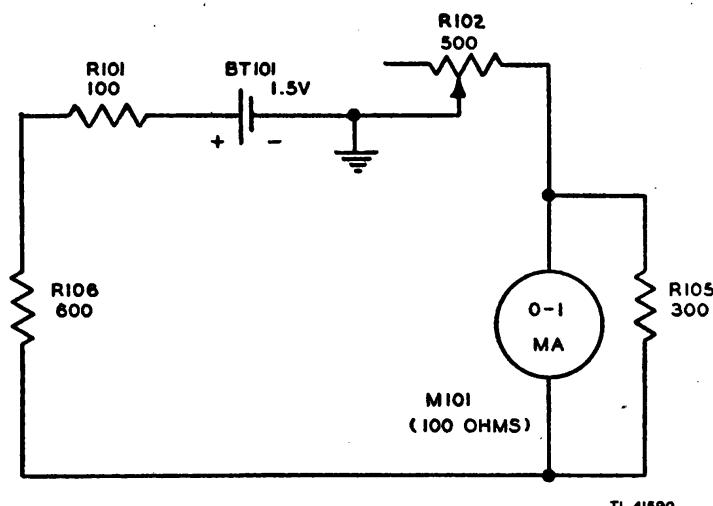

Figure 6. Meter-adjusting circuit for resistance measurements, simplified schematic diagram.
(1) OFF Position. When the selector switch is turned to OFF, the battery circuit is open and no current will flow in any part of the circuit.
(2) MTR ADJ Position (fig. 6). With the selector switch in this position (first step), battery BT101, current-limiting resistors R101 and R106, meter M-101, and current-adjusting resistor R102 (MTR ADJ control) are all connected in series to form a complete circuit. This circuit is used to adjust the meter pointer to full-scale deflection before resistance measurements are made on crystal rectifiers. The adjustment is made by means of resistor R102 until sufficient current flows in the circuit to give full-scale deflection of the meter pointer. The meter is shunted with resistor R105 to provide the correct sensitivity for the resistance range.
1. MTR ADJ position. Meter pointer does not indicate or cannot be adjusted to full-scale deflection.	1. Weak battery. Defective safety switch or faulty contacts on selector switch. Check all parts in this circuit (fig. 6) for an open circuit.